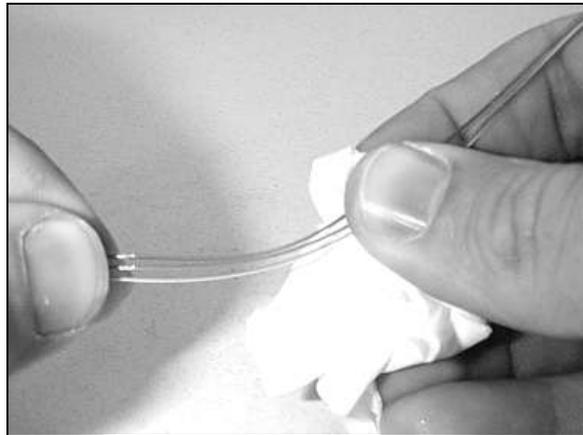

Figure 43 - Clean the optical fibers.
6.29 Clean the exposed fibers with a lint free wipe (Figure 43) and fasten the tube(s) to the splice organizing tray(s).